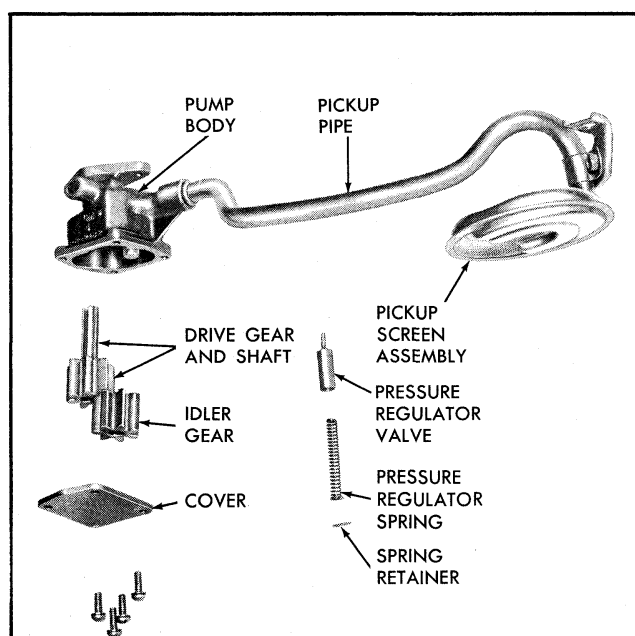

Fig. 6-54 Oil Pump - Exploded View
3. Remove 4 cover attaching screws, cover, gasket, idler gear and drive gear and shaft (Fig. 6-54).